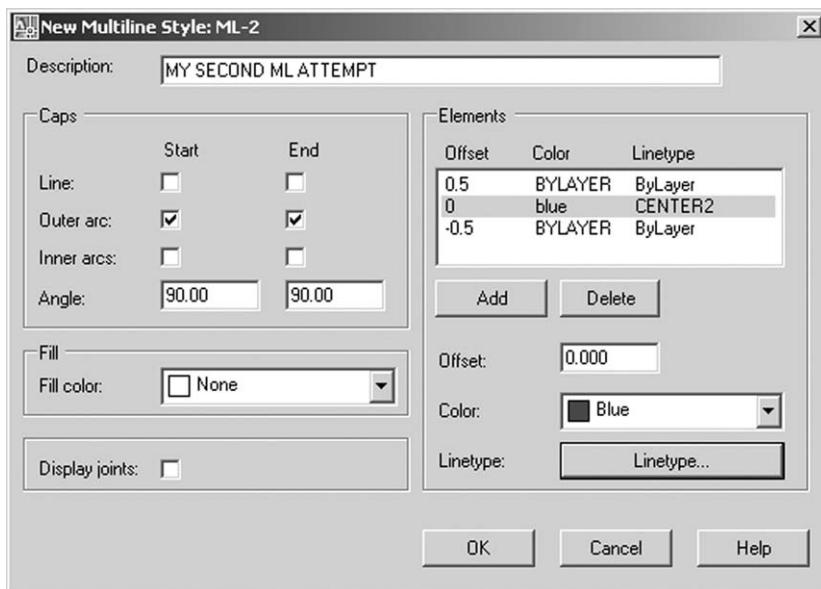

Figure 27.4 The dialogue box for creating the three element ML-2 multiline.
6. pick CENTER2 from the list, and dialogue box as Figure 27.4